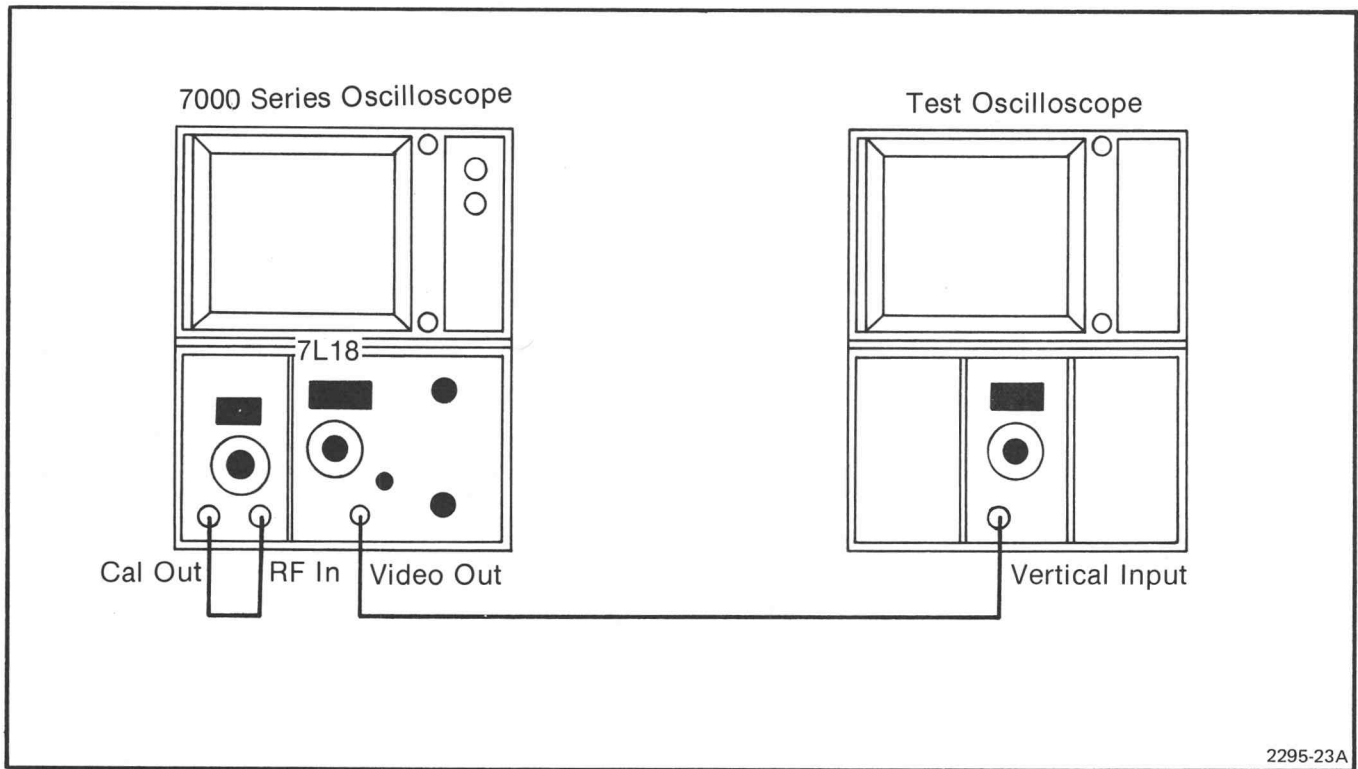

Fig. 4-15. Video Output Level Test Setup.
a. Connect the test setup as shown in Fig. 4-15. Apply the VIDEO OUT signal of the 7L18 to the input of a dc-coupled test oscilloscope with sensitivity set to 1 V/div. Set the 7L18 Display Mode to LOG 2 dB/DIV, REFERENCE LEVEL to -20 dBm , TIME/DIV to AUTO, FREQ SPAN/DIV to 100 kHz, and RESOLUTION BANDWIDTH to 300 kHz.